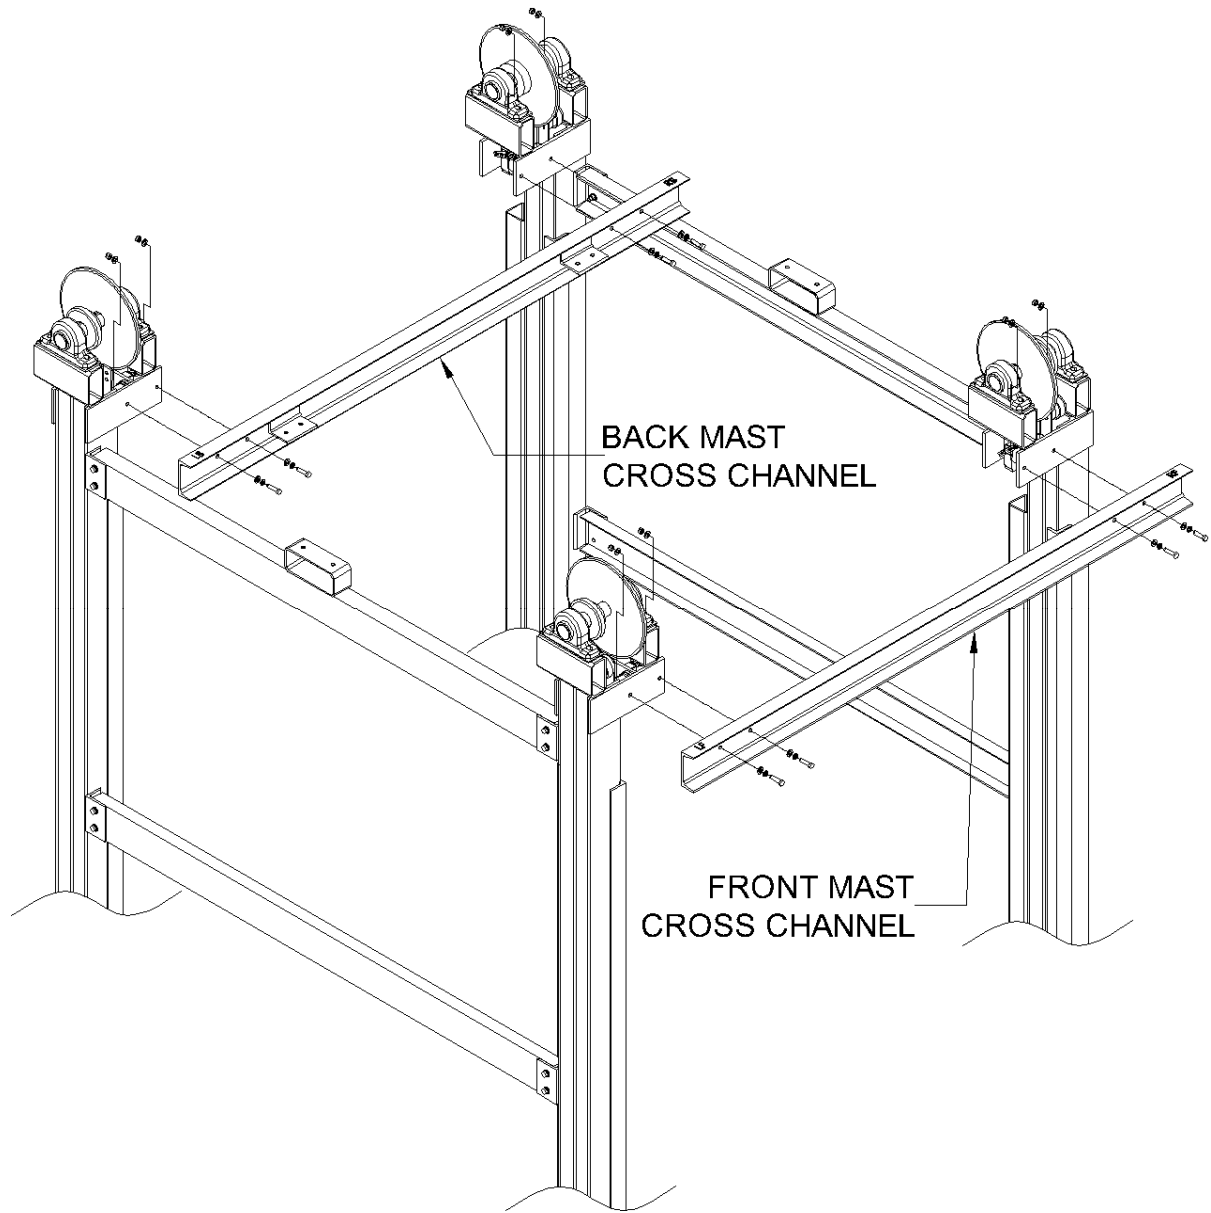

Figure 25 Attaching Mast Cross Channels
E. JOINING & SECURING THE MASTS (Reference Figure 25)
1. Join the Left mast pair assembly to the Right mast pair assembly by installing the front and back mast cross channels using the 1/2" x 2" lg. bolts, lock washers, and nuts provided. These channels are stamped LB, RB (left back, right back) and LF, RF (left front, right front) for proper orientation. Snug down the bolts so as to permit later adjustment. For placement, refer to **Figure 25**.